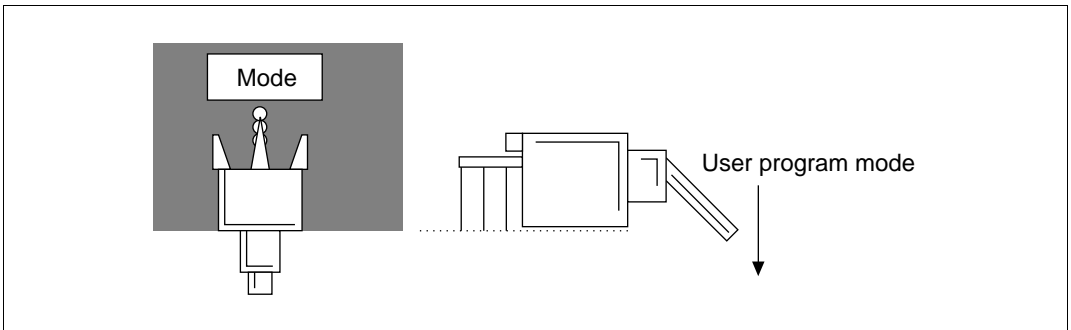

Figure 4.11 Programming Mode Switch Setting
3. Set the adapter board's mode switch to user program mode (figure 4.11).